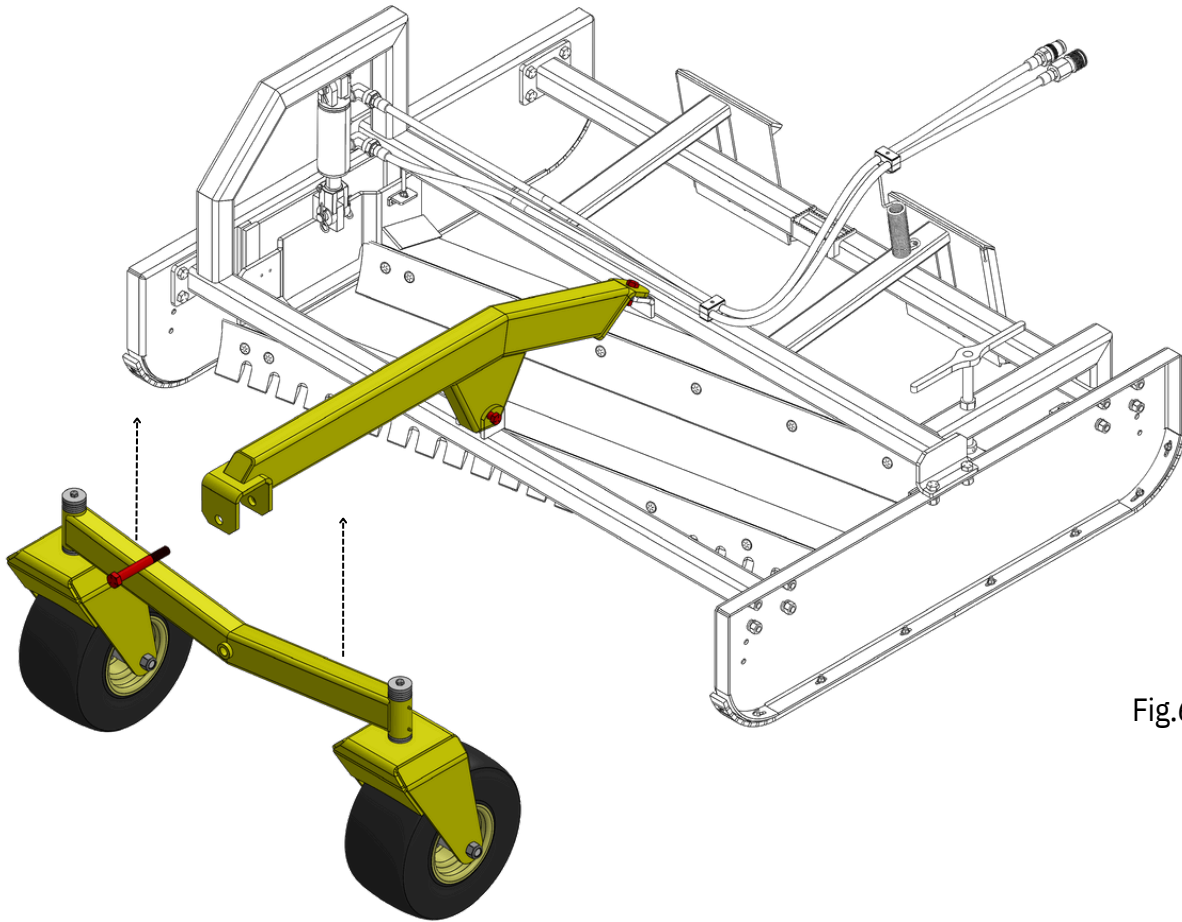

Fig.6
- Slide the Bridge and Wheel Assembly into position, under the front channel of the Tube Frame (fig.6).